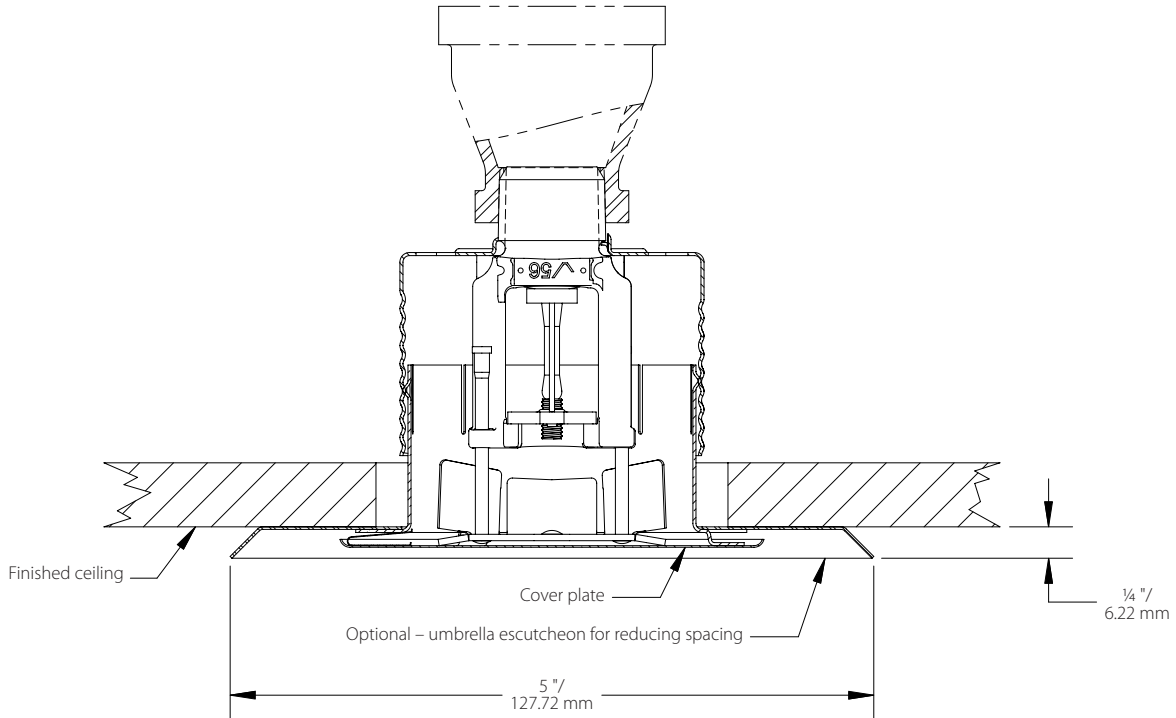

Figure 2c: V5648
- To install, place umbrella escutcheon over the finished cover plate assembly, oriented with the flat surface of the umbrella escutcheon flush with the finished ceiling. See Figure 2c.
7 Concealed Sprinkler can be reduced to 5.0 ft (1.5 m) when utilizing optional Cold Solder Umbrella Escutcheon in Figure 2c on page 4.